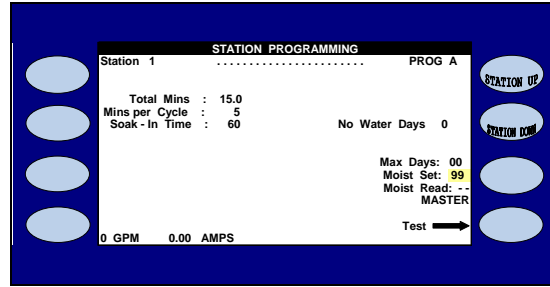

Figure 11
**MOIST SET:** The Calsense Moisture Sensor has its own numerical system of moisture readings. Typically it reads between the range of 45 (dry) to 85 (wet). By keeping moisture set points at 99, the sensors are never allowed to read above the set point value, and the controller waters the full programmed time. This occurs for the Master station as well as all slave stations assigned to the Master Station. After a few weeks, the slave areas should be checked and readjusted if necessary. If the slave area is to dry, adjust its maximum time to 25% more. If the area is to wet, decrease it by the same percentage. In both cases, the area should be rechecked after another few weeks, with adjustments made until the proper irrigation level is achieved (Figure 11).